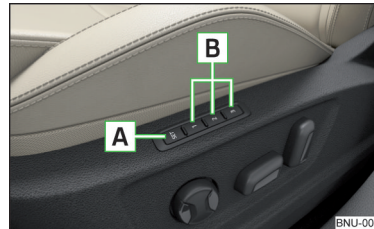

Fig. 81
Among the memory buttons **B** on the driver's seat, a setting for the driver's seat and exterior mirror position can be saved » Fig. 81.
- › Press the SET **A** » Fig. 81 button and then, within 10 seconds, press the desired memory button **B**. Storing is confirmed by an acoustic signal.
- › Turn on the ignition and press the desired memory button **B** » Fig. 81.